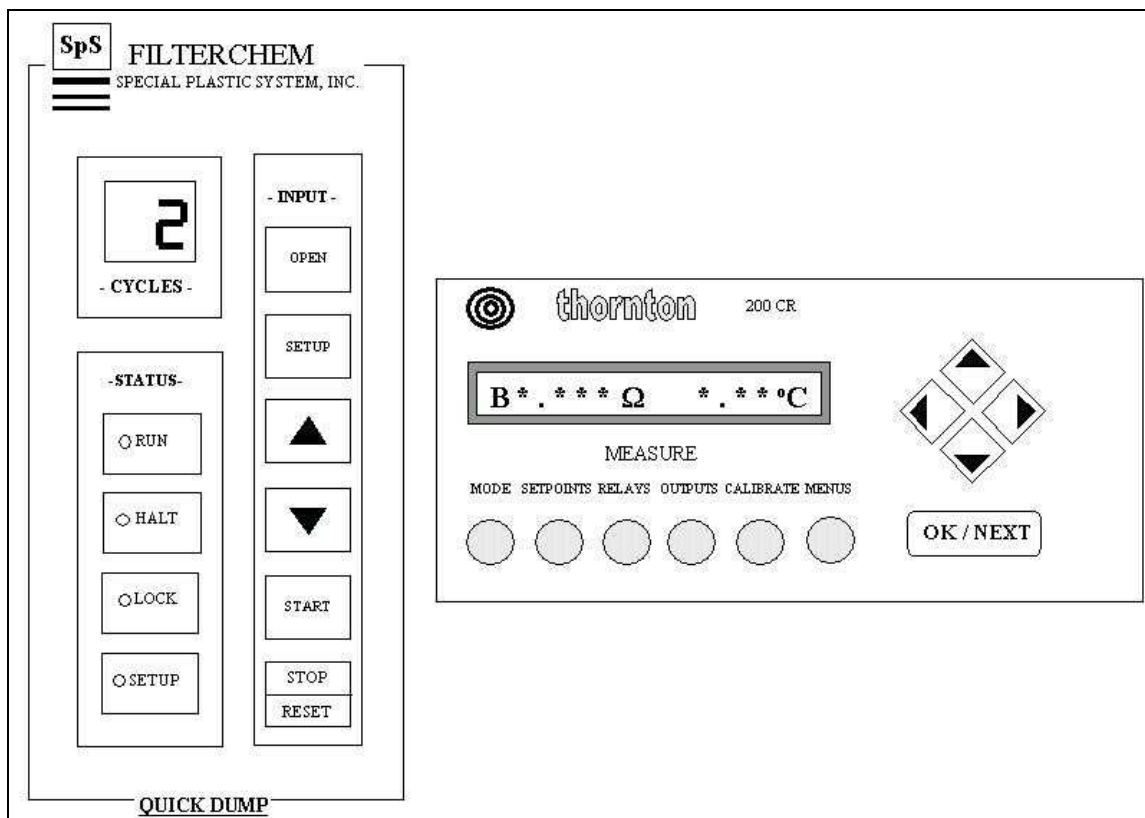

Figure 2
There are three control/displays at this station, see Figures 1 and 2 for more details. Members should only use the control key marked as **SPS Filterchem**. This is the control pad for the quick dump (QD) station. QD is currently set up for two dump rinse cycles. Wafers are initially showered with DI water followed by two DI fill-dump cycles. These cycles end with wafers submerged in the water for operator to extract and place them in SRD. During the QD cycle resistivity as well as the heated bath temperature can be read from **Thorton display monitor** in front of the station. See Figure 2 for more details. The station performs an automatic self-cleaning, every 60 minutes by one QD cycle.